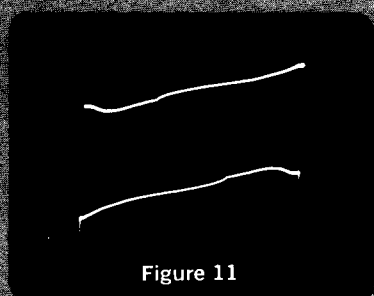

Figure 11
- **HUM** . . . Hum in the scope or detector used in conjunction with the Model 900 A will make it impossible to bring the two traces together as in step 6. Refer to Figures 11, 12 and 13.